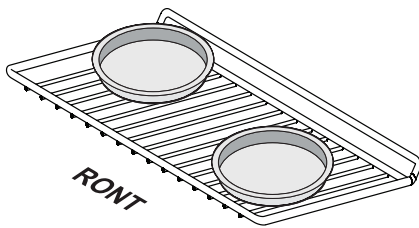

Figure 16: Baking with a single rack
- When baking using one oven rack, position bakeware as shown in Figure 16. Allow at least 2 inches (5 cm) of space between bakeware for proper air circulation.